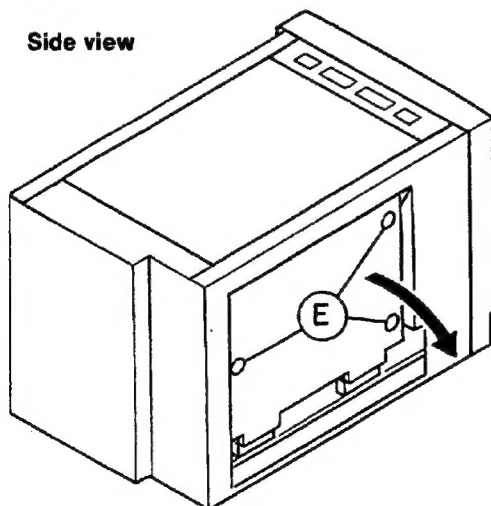
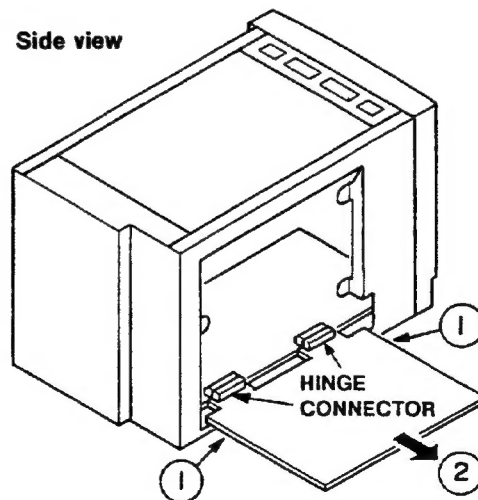

Fig. 3
Fig. 4
- (1) Remove the 3 screws ⑤ shown in Fig. 3.
- (2) Open the signal PC board assembly towards yourself as shown by the arrow.
- (3) Grasp at the position of arrows ① and pull in the direction of arrow ② to remove the signal PC board assembly. (Removing the hinge connectors one by one facilitates the removal.) (Fig. 4)